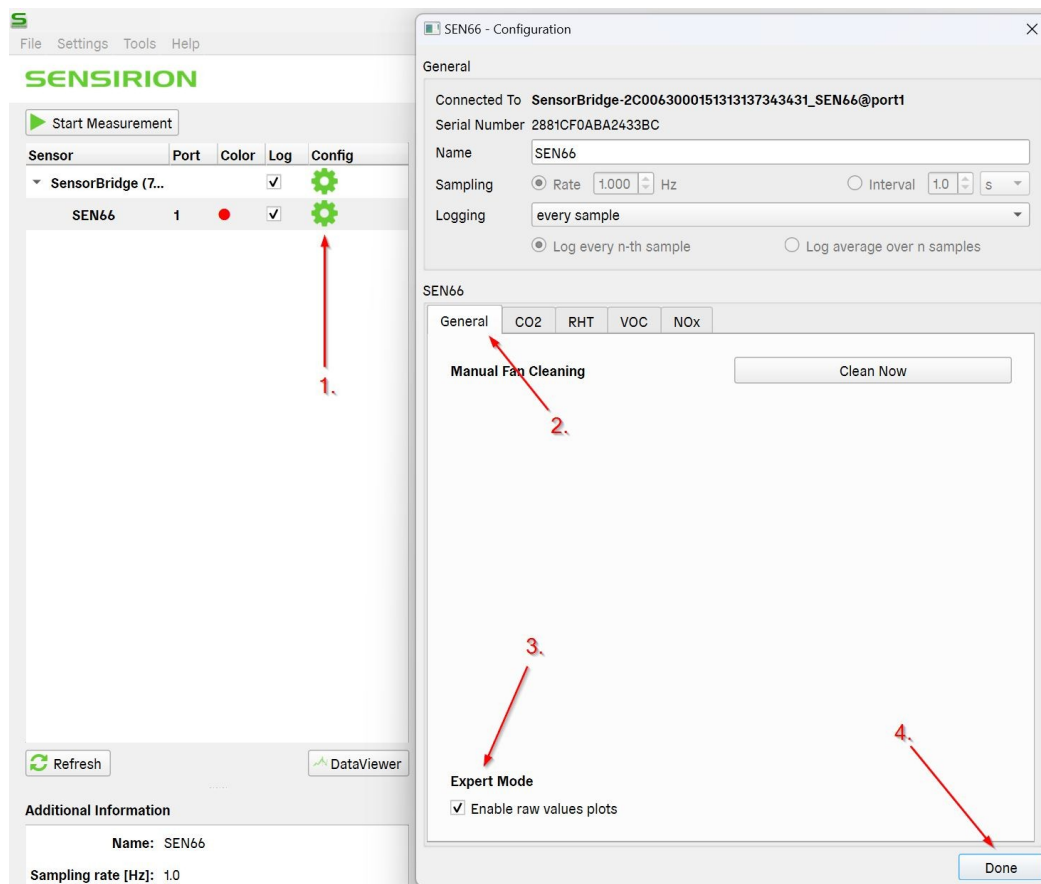

Figure 6. Enable raw values plots for SEN6x
In ControlCenter, make sure to click on the gear icon next to SEN6x sensor module name and select the "Enable raw values plots" checkbox, as seen in Figure 6, to see the raw temperature signal from the module additionally to the compensated signal.
- d. Tick the box to record raw values, as shown in **Figure 6**